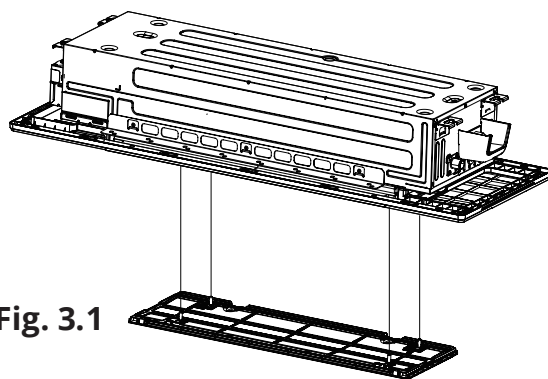

Fig. 3.1
3. Then, press the **DOWN** button on the remote control. The air intake grille will automatically start lowering. Wait until it stops before attempting to remove the air filter (Refer to Fig. 3.1).